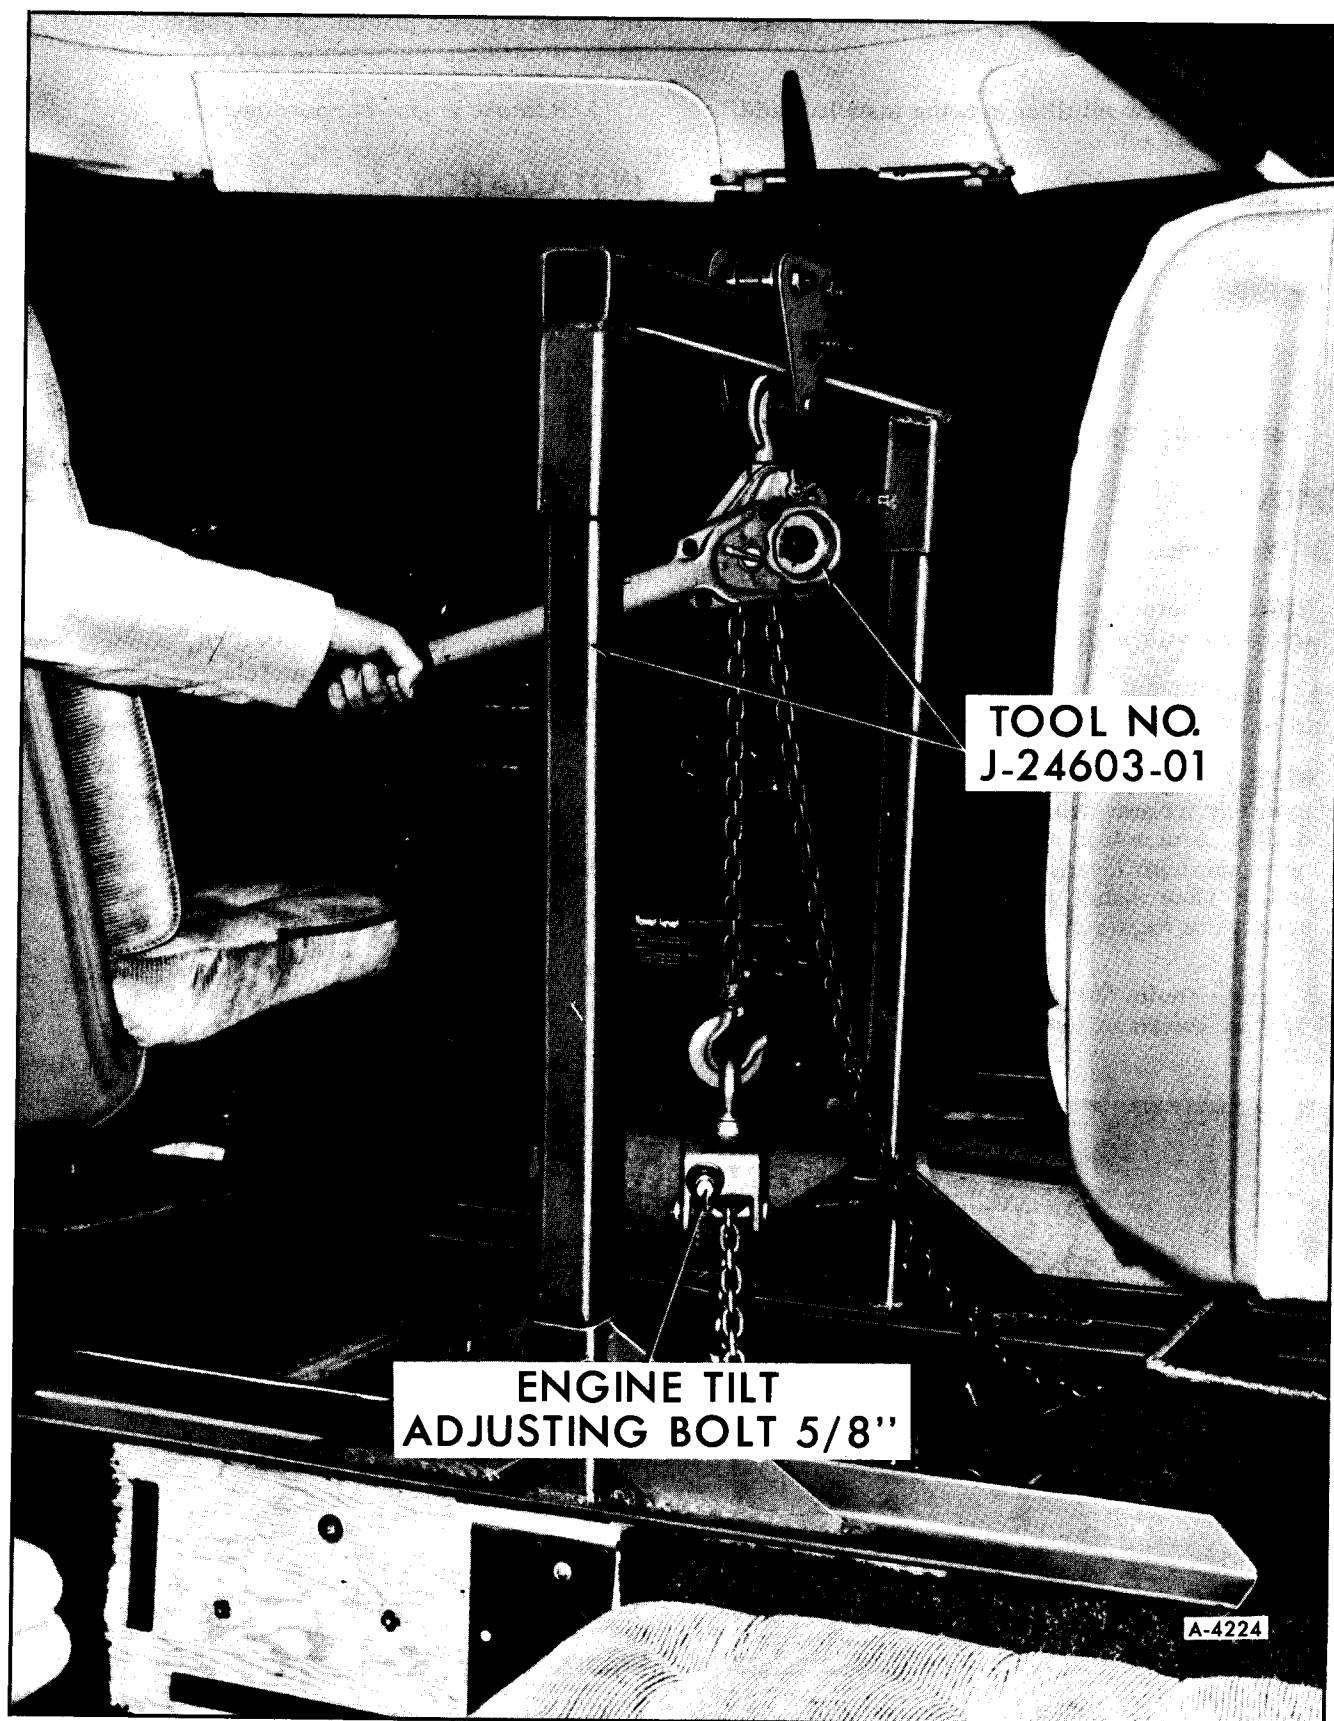
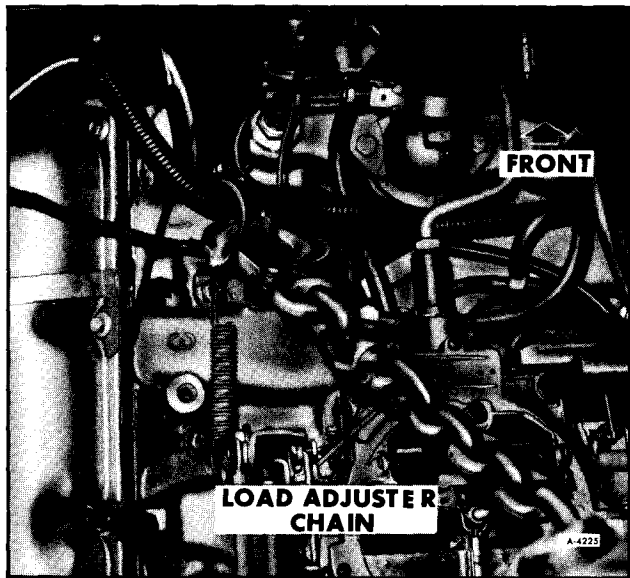

Figure 5—Attaching Engine Removal Tool
Figure 6—Front Engine Lift Location
2. Attach engine lift Tool No. J-24603-01 as shown in Figure 5.
NOTE: To properly position engine removal tool, remove seat belt plate and anchor bolt assembly. Attach load adjuster chain to front and rear engine lift locations as shown in Figures 6 and 7. Then install support braces and winch hoise as in Figure 5.
3. Remove bolts "A" and "B". Remove nuts "C" and "D" as shown in Figure 6.
2. Attach engine lift tool No. J-24603-01 as shown in Figure 5.